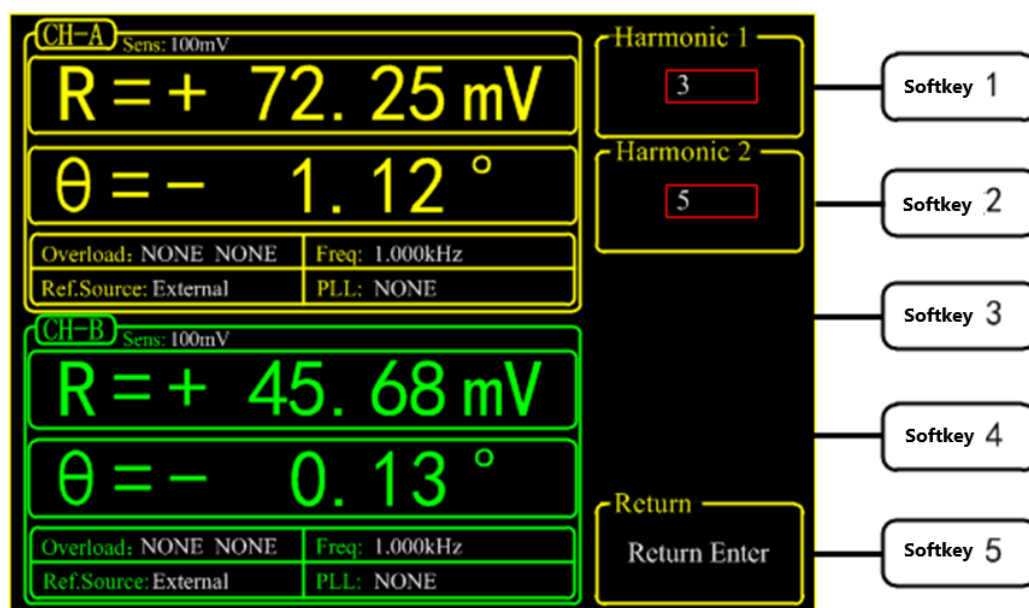

Fig.96 Harmonic Secondary Submenu
The operation steps of measuring the first and third harmonic of the input square wave is below. First, press the [soft key 4] in [REF PHASE] menu to choose [harmonic] submenu as shown in Fig.96.